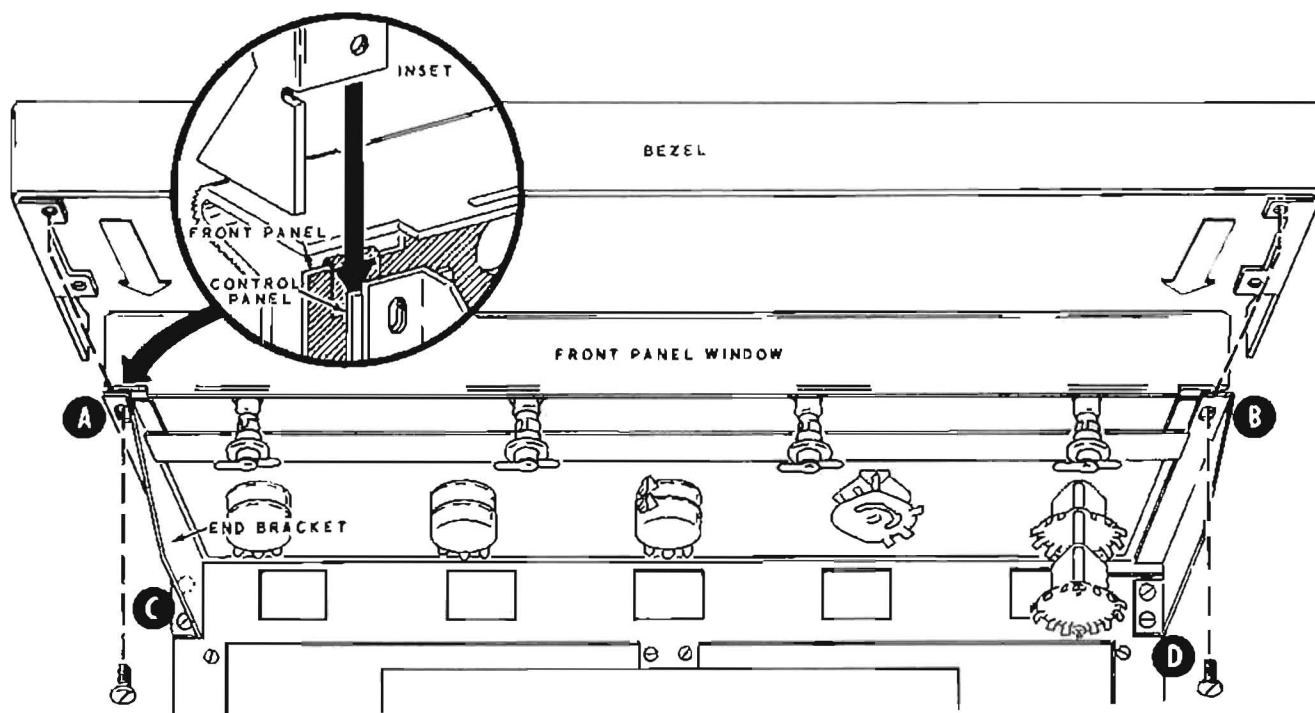

Figure 1
Refer to Figure 1 for the following steps.
- ( ) Install the bezel using only the two top holes at A and B. Use the two screws removed previously. Insert the tabs of the bezel between the front panel and the control panel as shown in the inset drawing on Figure 1. Be sure the bezel is down tight against the front panel window before tightening the screws.